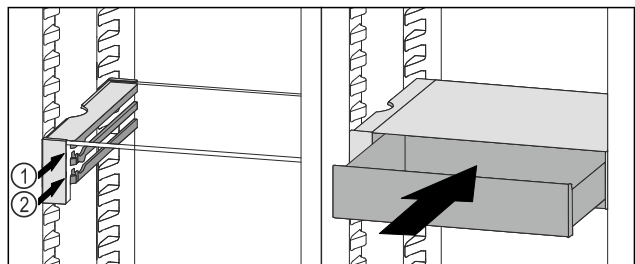

Fig. 78
- ▶ Place the VarioSafe drawer behind the stoppers on desired rib *Fig. 78 (1)* or *Fig. 78 (2)*.